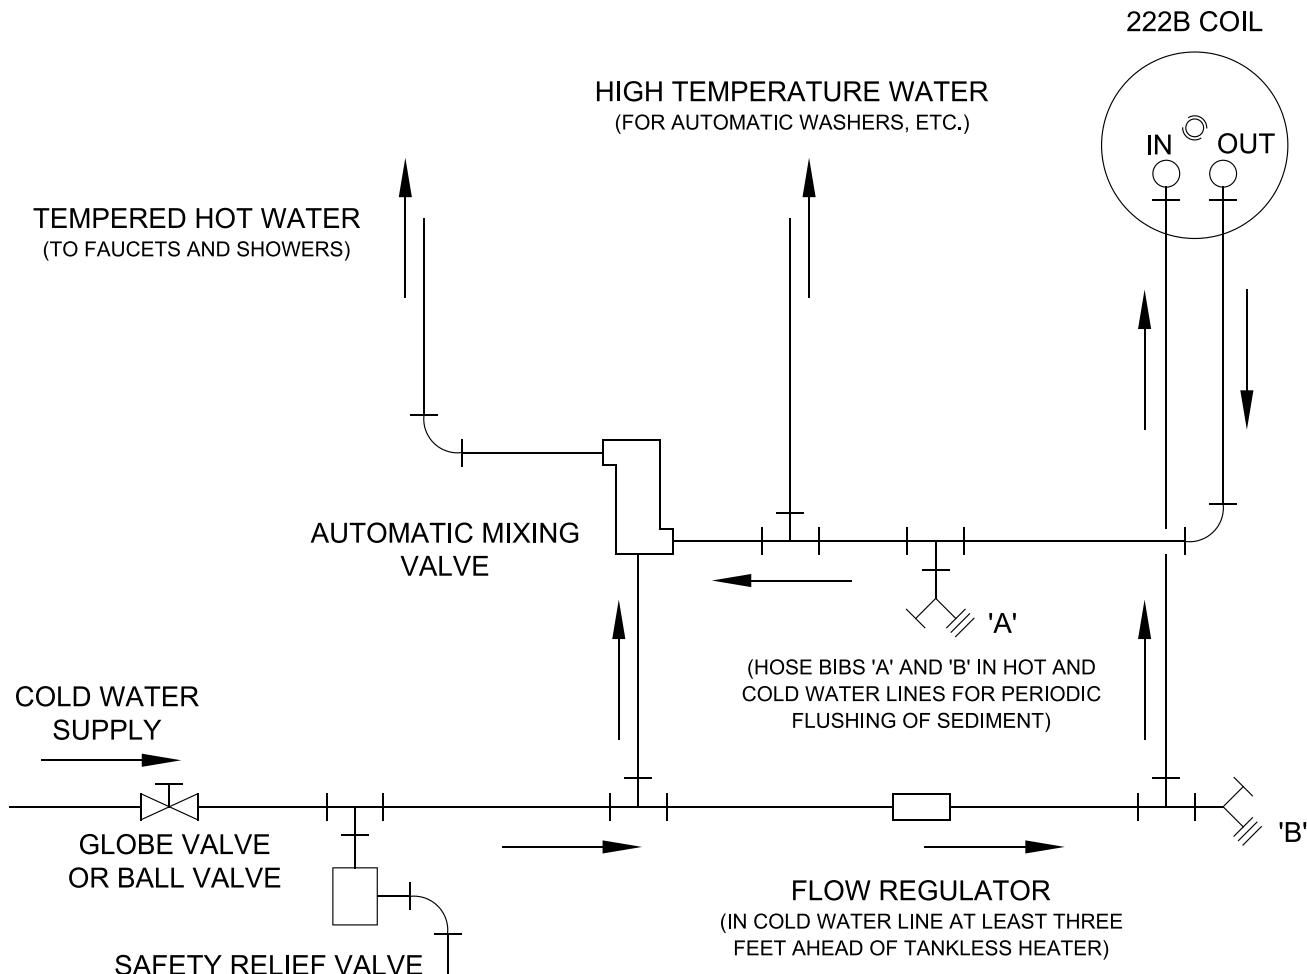

Figure 15: Schematic Tankless Water Heater Piping
A. CONNECT TANKLESS HEATER PIPING as shown in Figure 15. See Table 8 for Tankless Heater Rating.